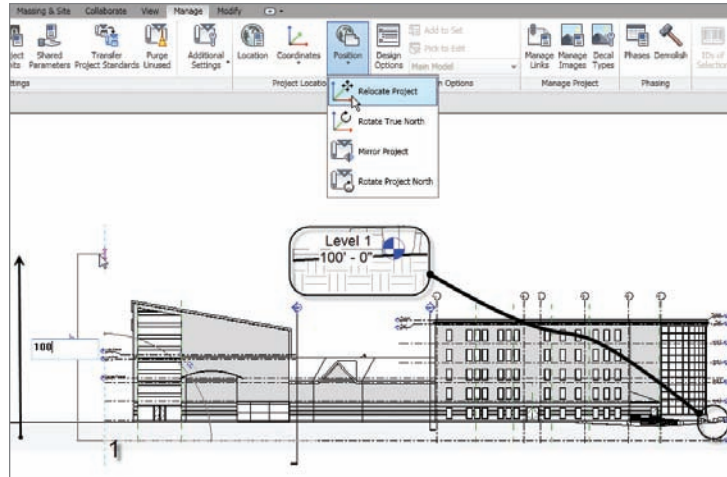

FIGURE 18.33 Relocating the project
6. On the Manage tab, click Position > Relocate Project (see Figure 18.33).
7. Pick the point labeled “1” in Figure 18.33.
9. Type 100 (see Figure 18.33).